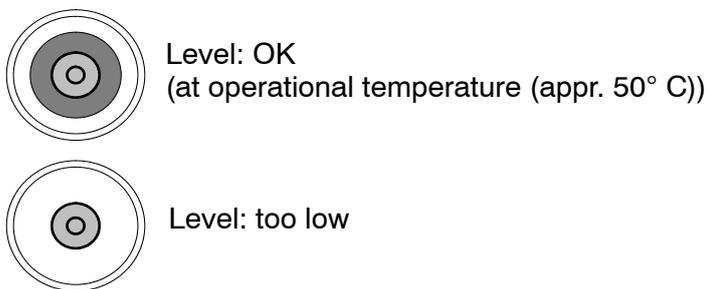

Figure 80: Measuring cone (top view)
- Fill in distilled water (**only** distilled water from Raytheon Anschütz, part number 148-398, one 230cm³ bottle) into the inlet for supporting liquid until the measuring cone shows “Level O.K.”, see Figure 80.